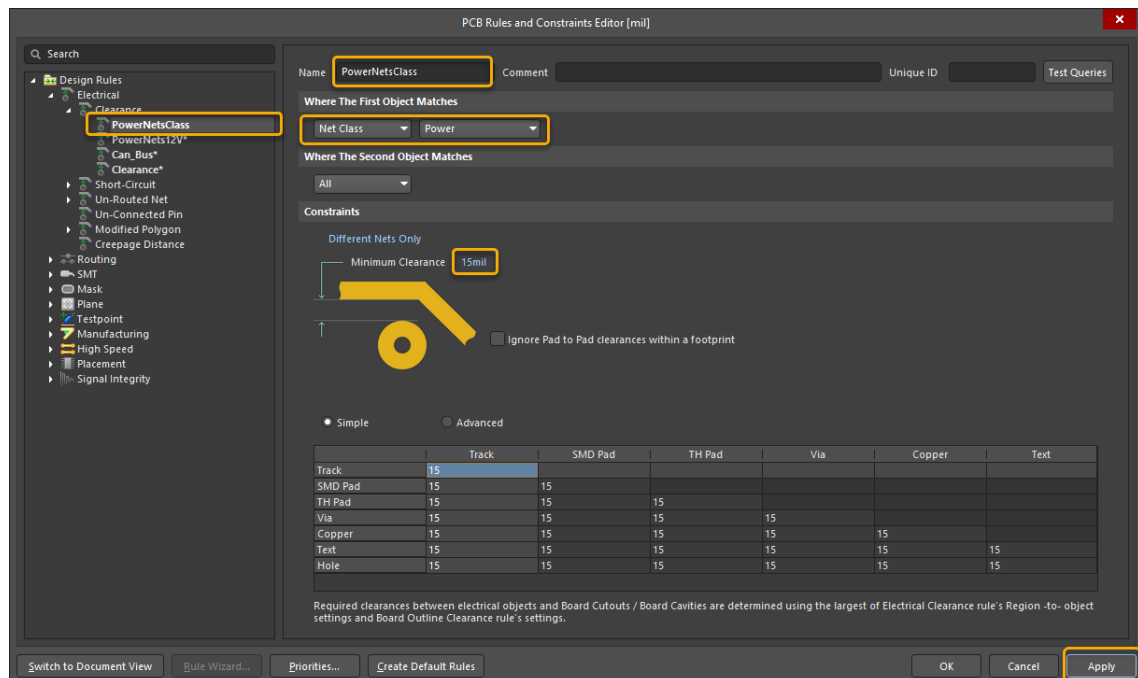

Figure 6. Creating a PowerNets Net Class
23. Assign each field according to Figure 6 below.